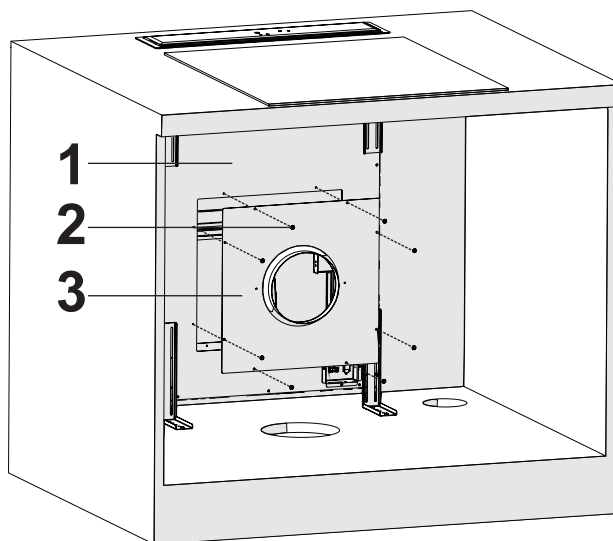

Fig. 21: I
8. → Install air exhaust plate supplied together using 8x 3.5 x 6.5 screws (Fig. 21).